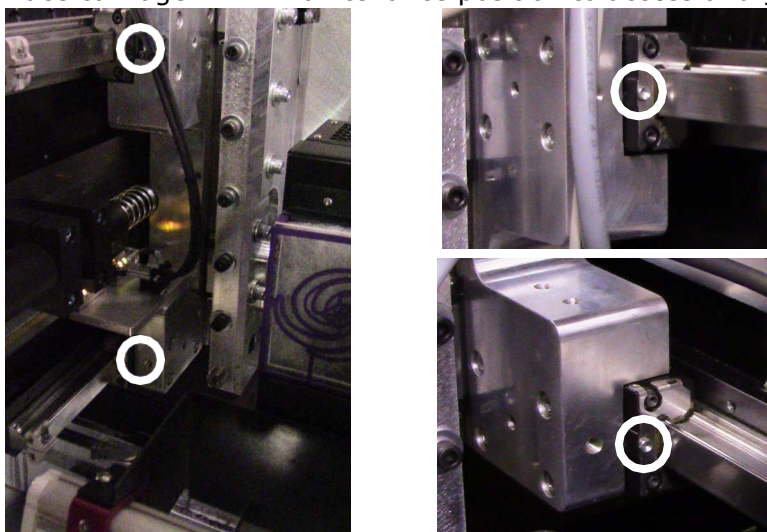

Figure 6-25 Carriage bearings, Left and Right sides, respectively, with detail
2. Insert needle into grease fitting at carriage bearing ends, Figure 6-25.